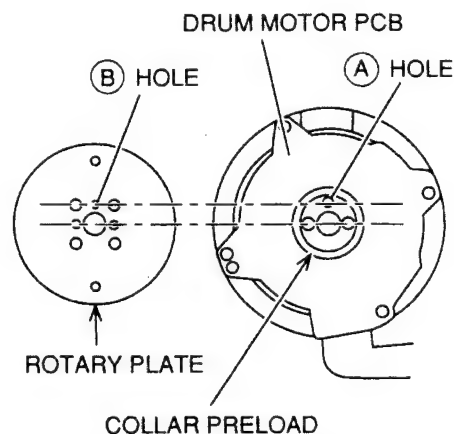

Fig. 3-18
5. Remove the two (D) screws which retain the ROTARY PLATE and remove the ROTARY PLATE. As the power of the magnet on the ROTARY PLATE is very strong and the DRUM MOTOR PCB is sandwiched between the ROTARY PLATE and DRUM PLATE, take care not to damage the DRUM MOTOR PCB when removing the ROTARY PLATE. First removing the ROTARY PLATE with DRUM MOTOR PCB and DRUM PLATE attached from the COLLAR PRELOAD is recommended. Then hold the ROTARY PLATE and remove the DRUM PLATE very carefully.
6. Reassemble in the reverse order for installation. When reattaching the ROTARY PLATE, the (A) hole on the COLLAR PRELOAD must be aligned with the (B) hole on the ROTARY PLATE as shown in Fig. 3-18.